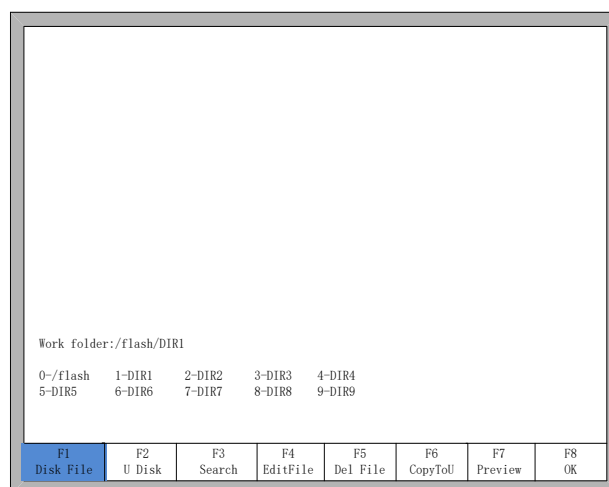

Fig 6.6 Folder 1
- 0-/flash 1-DIR1 2-DIR2 3-DIR3 4-DIR4 5-DIR5 6-DIR6 7-DIR7 8-DIR8 9-DIR9 . These 10 symbols interpret 10 folder path. The number before '-' is the short key, press the corresponding number, switch current work folder into corresponding folder. For example, press[1] , it will show as the figure 6.6.